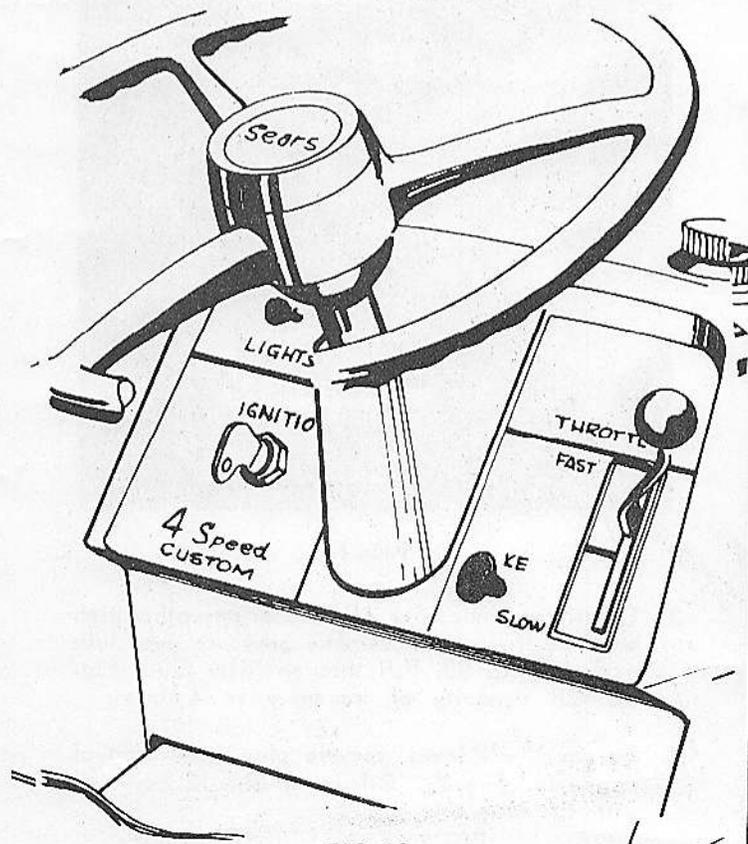

FIG. 10
2. Refer to Fig. 10. Turn key in ignition switch clockwise to "on" position.
4. After engine starts, move throttle lever to fast position; refer to Fig. 10.
2. Refer to Fig. 10. Turn key in ignition switch clockwise to engage starter. When engine starts, release key and move throttle lever, refer to Fig. 10, to fast position.